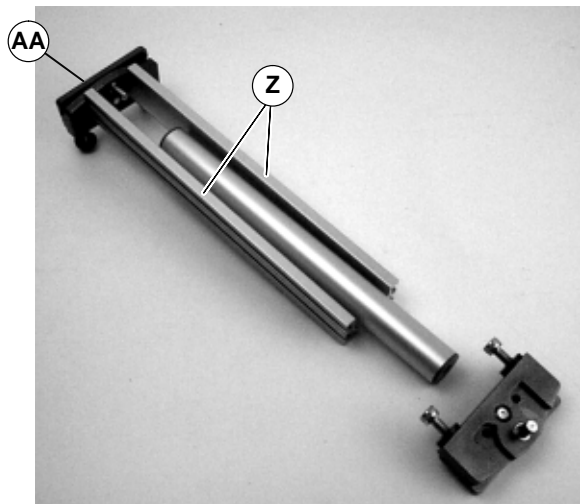

Figure 9
1. Typical components (Figure 9). Roller guards (Z) are shipped fastened to one end block (AA). Do NOT fasten to other block.